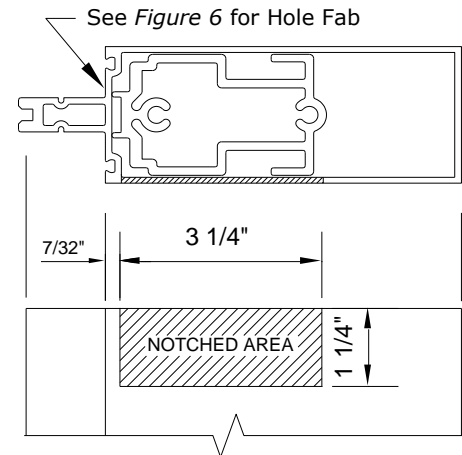

Figure 16: Horizontal Layout & Last Bay Notch
NOTE: If roll-over horizontals are used, all vertical mullions can be installed first. If tubular horizontals are used, the wall must be stick erected. Last bay tubular horizontals must be notched. See Figure 16. Option: Use roll-over horizontals at last bay to avoid notch.
- 11.1 See *Figure 16* as a guide for horizontal layout. Seal around shear blocks prior to installing each horizontal mullion. See *Figure 17*. Install horizontal mullions as shown in *Figure 17*. Prior to attaching fasteners, make sure sealant has been forced out of the holes in horizontal. If not, apply a liberal amount of sealant into each hole. Secure horizontals to shear block with two (2) FS-7 fasteners at each end of horizontal. Check head of fastener to insure proper seal.